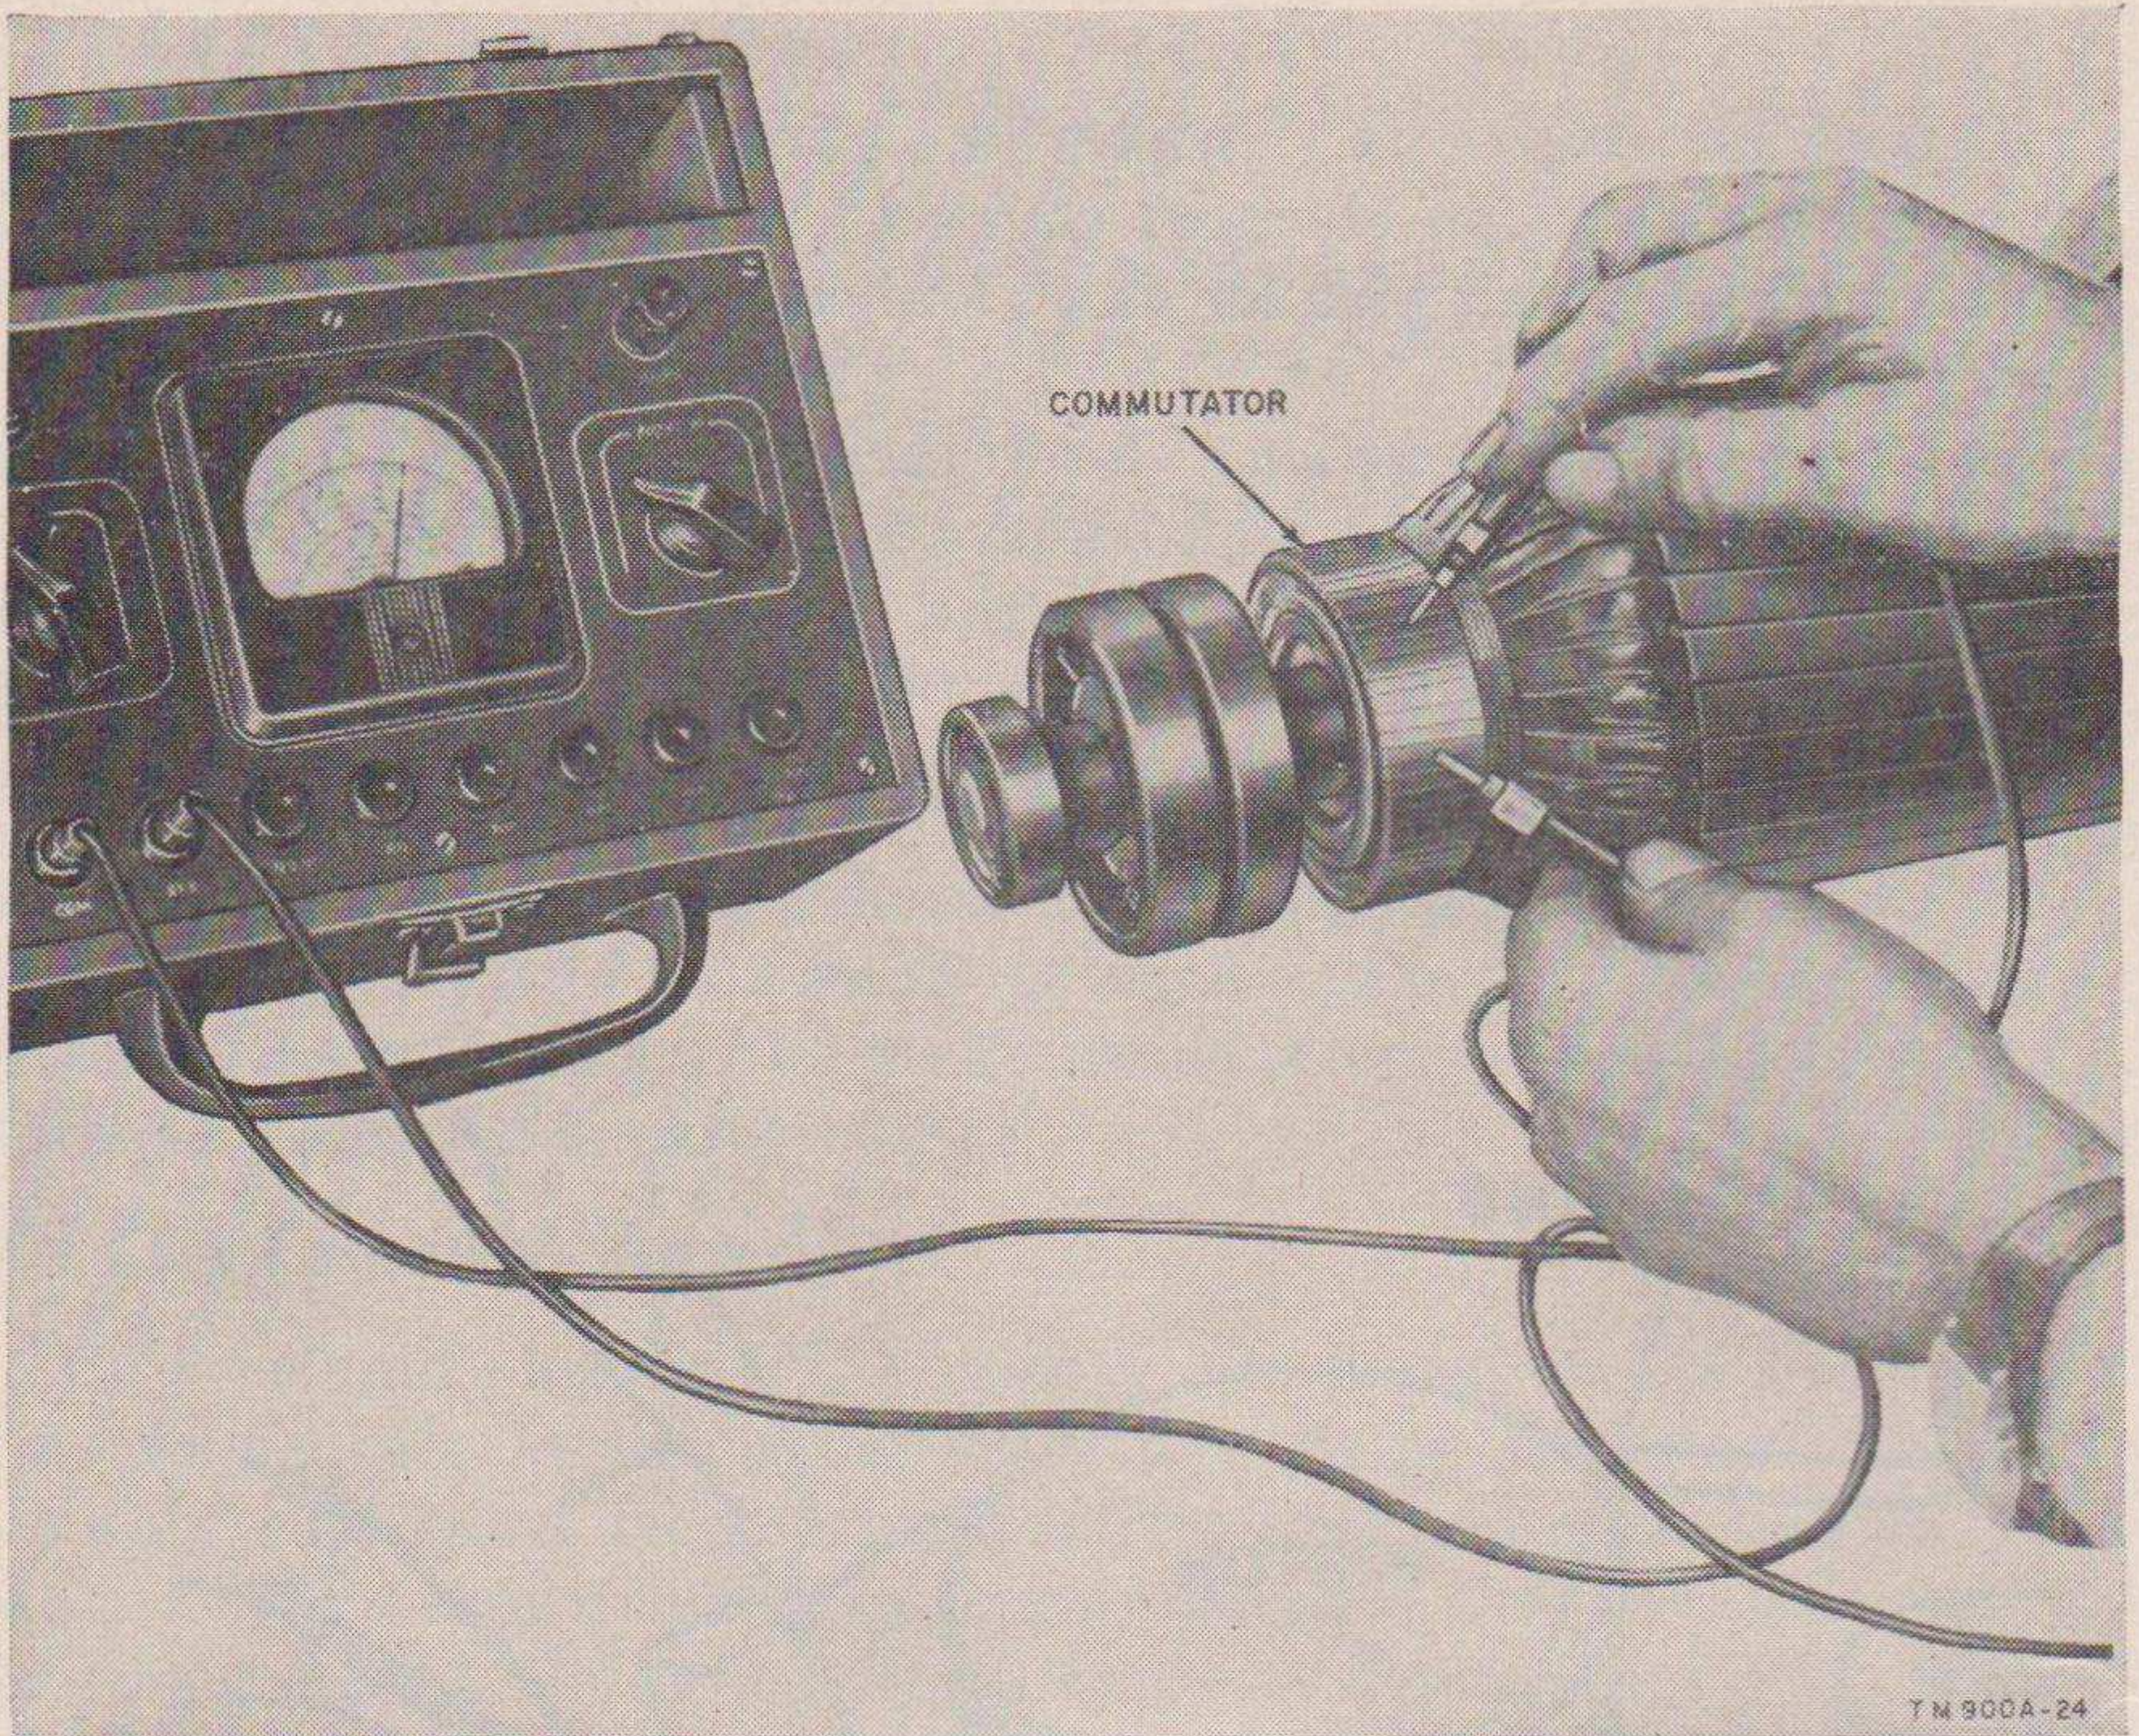

Figure 24. Testing for short-circuited armature.
b. Generator Rotor Inspection (figs. 24 and 25). Inspect the slip rings to see that they are not worn or pitted. See that they are not grooved from brush contact. Inspect the commutator to see that it is not burned, worn, or pitted. See that it is not grooved from brush contact and that the undercutting of the mica between the commutator bars is satisfactory. Inspect the commutator to see that all